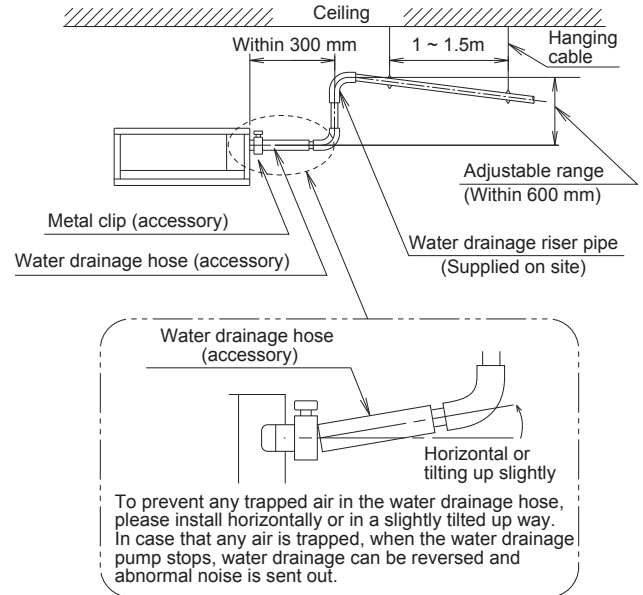

Fig. 13
- Please keep the water drainage riser pipe vertical, and ensure that the distance from the air conditioner is within 300 mm. (Refer to Fig. 13)